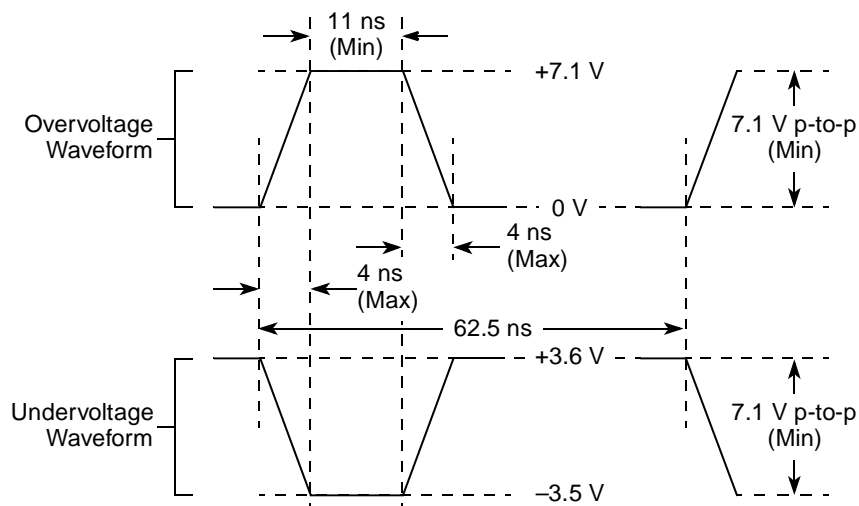

Figure 3. Maximum AC Waveforms on PCI Interface for 3.3-V Signaling
- ⁶ OV_{IN} on the PCI interface can overshoot/undershoot according to the PCI Electrical Specification for 3.3-V operation, as shown in Figure 3.
Figure 3 shows the undershoot and overshoot voltage of the PCI interface of the MPC8343E for the 3.3-V signals, respectively.